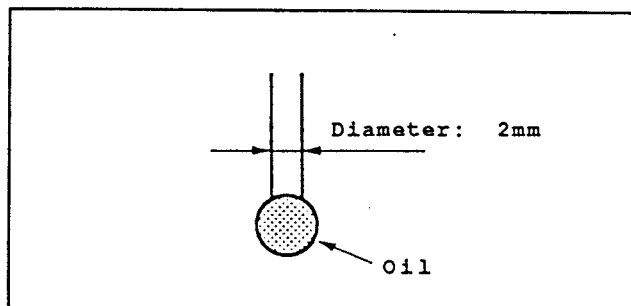

Fig.II-6
- (1) "One drop of oil" means the amount which sticks to a 2mm diameter rod, as shown in Fig.II-6.
- (2) Use oil and grease specified below.